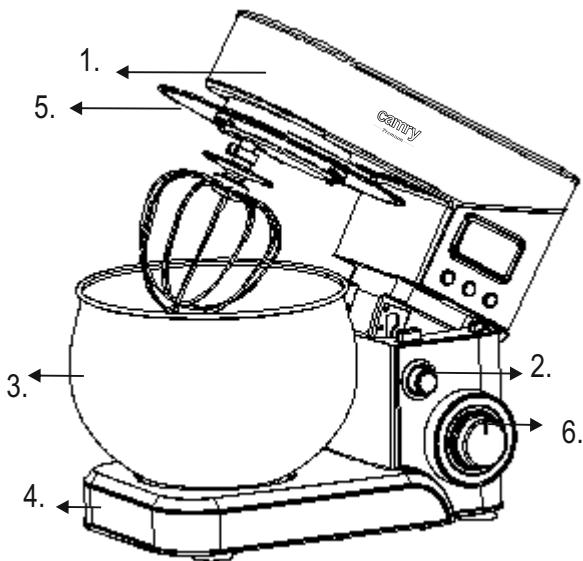

Fig. 1
DESCRIPTION OF THE DEVICE (figures 1 and 2 and 3)
4. Place the bowl (3) on the base (4), then turn the bowl (3) in clockwise until it locks.
5. To lower the top of food processor (1), press the tilt button (2) and push by one hand the top of food processor (1) down. A click sound will be heard when the part has reached the correct position. Make sure the bow cover (5) is fixed in place (see figure 1).